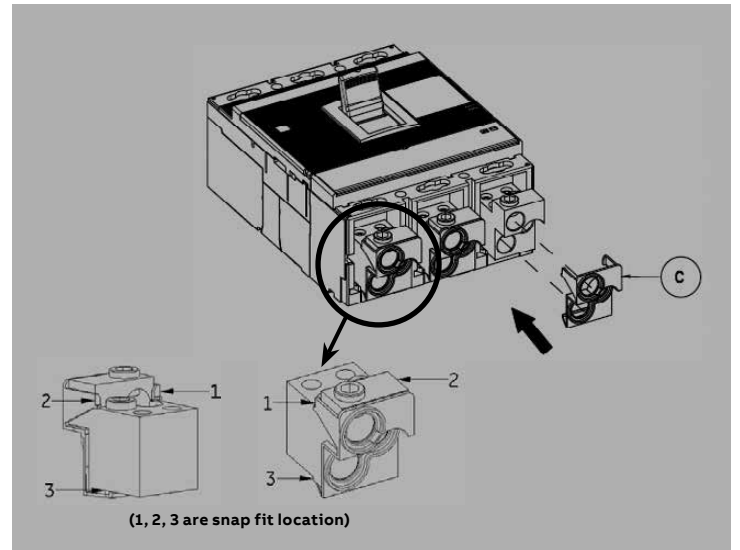

Figure 3: Assemble the Item C, snap fit at 3 places as shown in view
Step 2: Assemble Item C, ensure the snap fit as shown in Figure 3